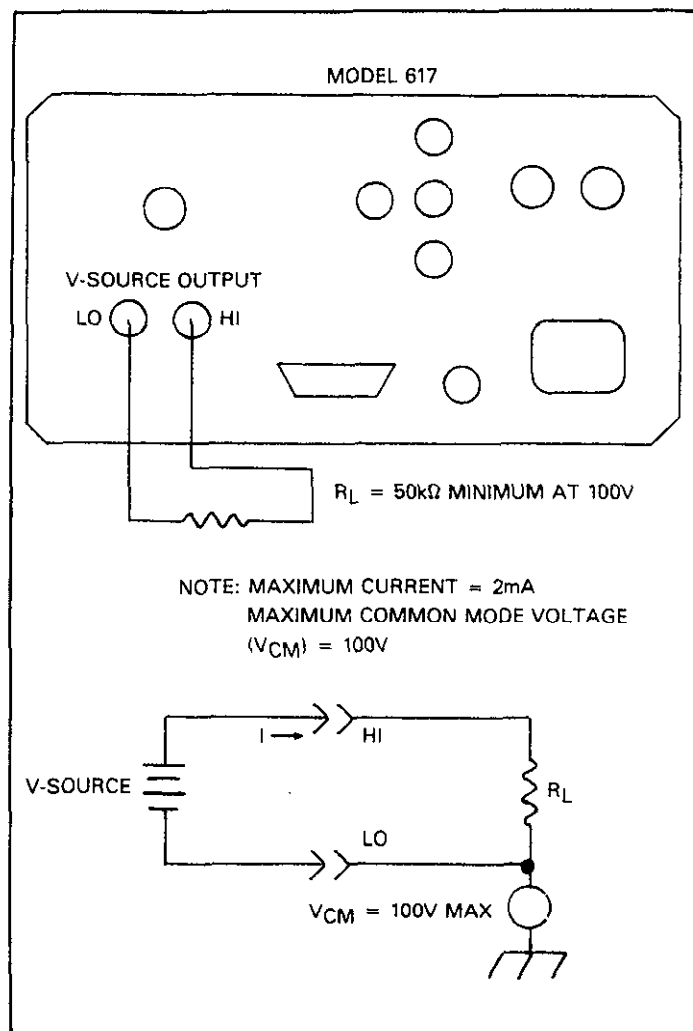

Figure 2-13. Voltage Source Connections
1. Connect the circuit under test to the V-SOURCE OUTPUT HI and LO binding posts, as shown in Figure 2-13. R_L represents the resistive load of the circuit under test. Note that R_L has a minimum value of $50\text{k}\Omega$ at an output voltage of 100V . This value is based on the 2mA current limit of the voltage source.